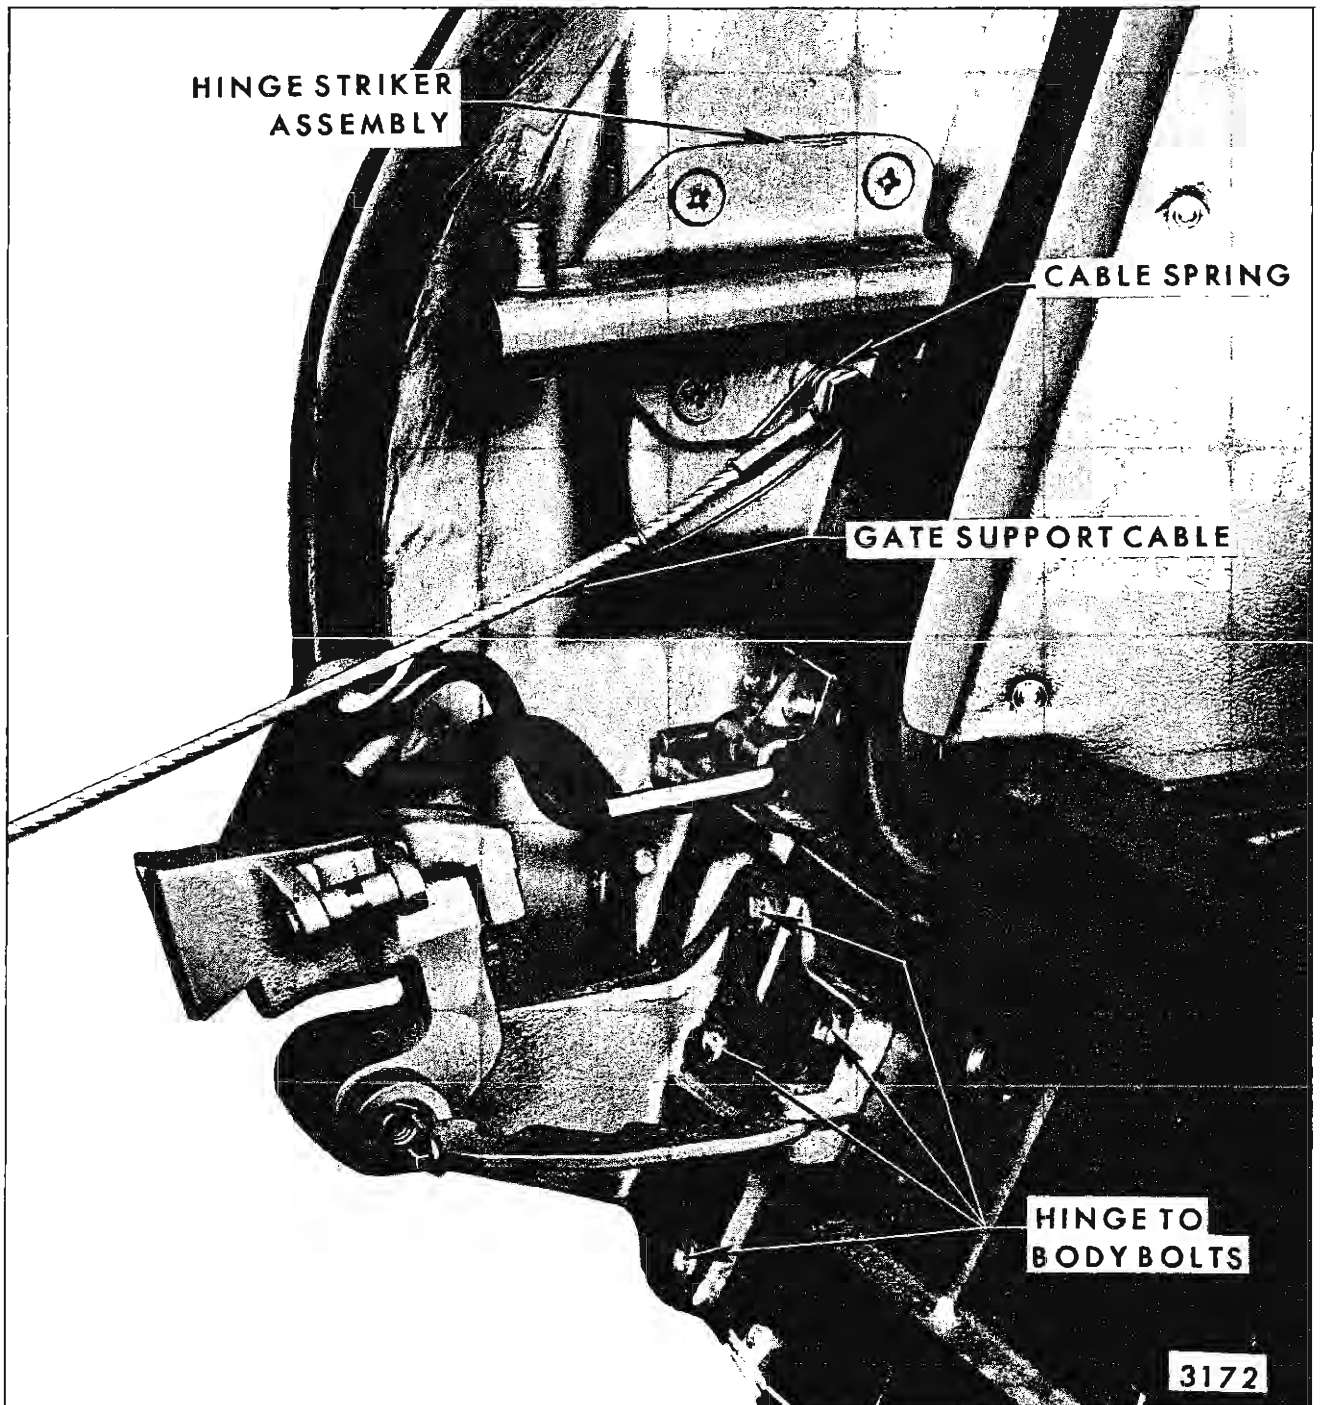

Fig. 9-29—Tail Gate Adjustments - "B" Body Shown - "A" Body Typical
**NOTE:** The support cable spring, shown in Figure 9-29, must be reinstalled in depicted position to insure proper movement of cable during gate operation.